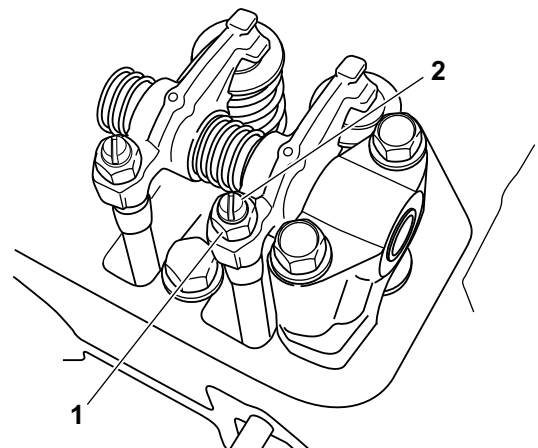

Figure 6-39
5. Loosen the valve adjusting screw lock nut (**Figure 6-39, (1)**) and valve adjusting screw (**Figure 6-39, (2)**) on the rocker arm and check the valve for inclination of the valve cap, entrance of dirt, or wear.
6. Insert a feeler gauge of the correct thickness (**Figure 6-40, (1)**) (see *Adjustment Specifications on page 6-4*) between the rocker arm and valve cap. Turn the valve adjustment screw to adjust the valve clearance so there is a slight “drag” on the feeler gauge when sliding it between the rocker arm and the valve cap. Hold the adjusting screw while tightening the valve adjusting screw lock nut (**Figure 6-39, (1)**). Recheck the clearance.